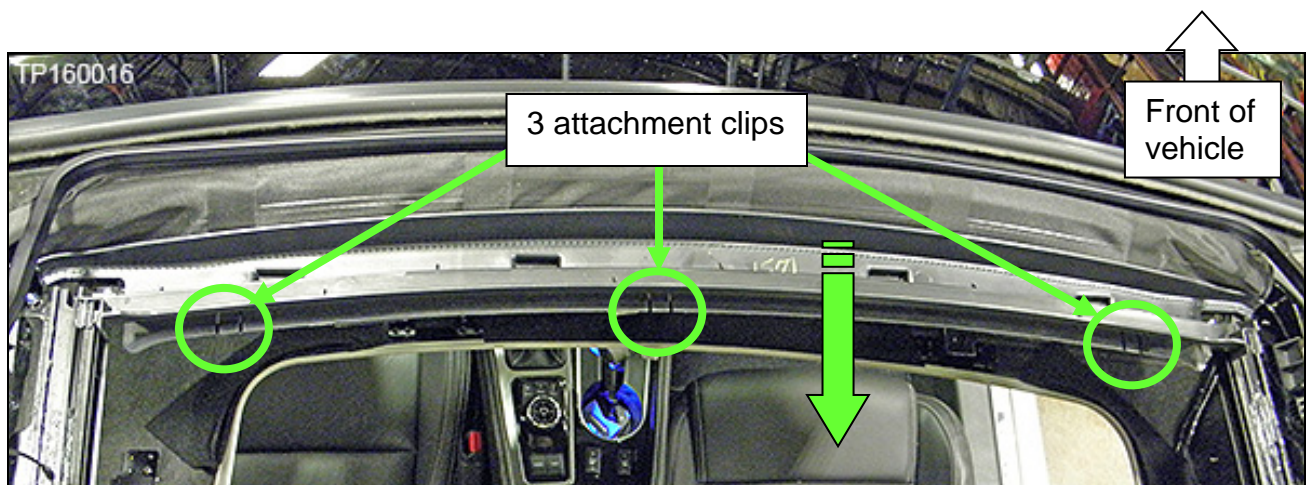

Figure 21
- a. Gently lift the 3 attachment clips with a small screw driver one at a time (Figure 21).
- b. Slide the wind deflector assembly toward the rear of the vehicle to release it from the Moonroof frame (Figure 21).
7. Slide the wind deflector toward the front of the vehicle and snap the 3 attachment clips (shown in Figure 21) into the Moonroof frame.